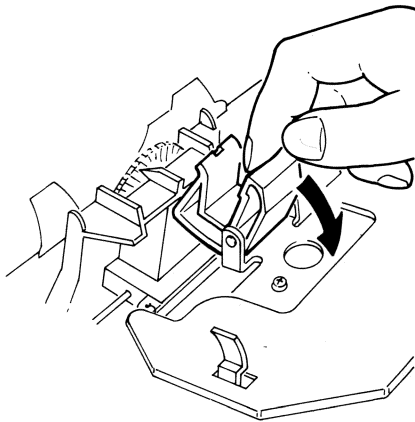

Figure 6A
3. Pull the Wheel Lock Lever in the direction indicated by the arrow (see Figure 6A). The wheel Holder will then open.
2. Press the Wheel Lock Lever as described above (see Figure 6A).